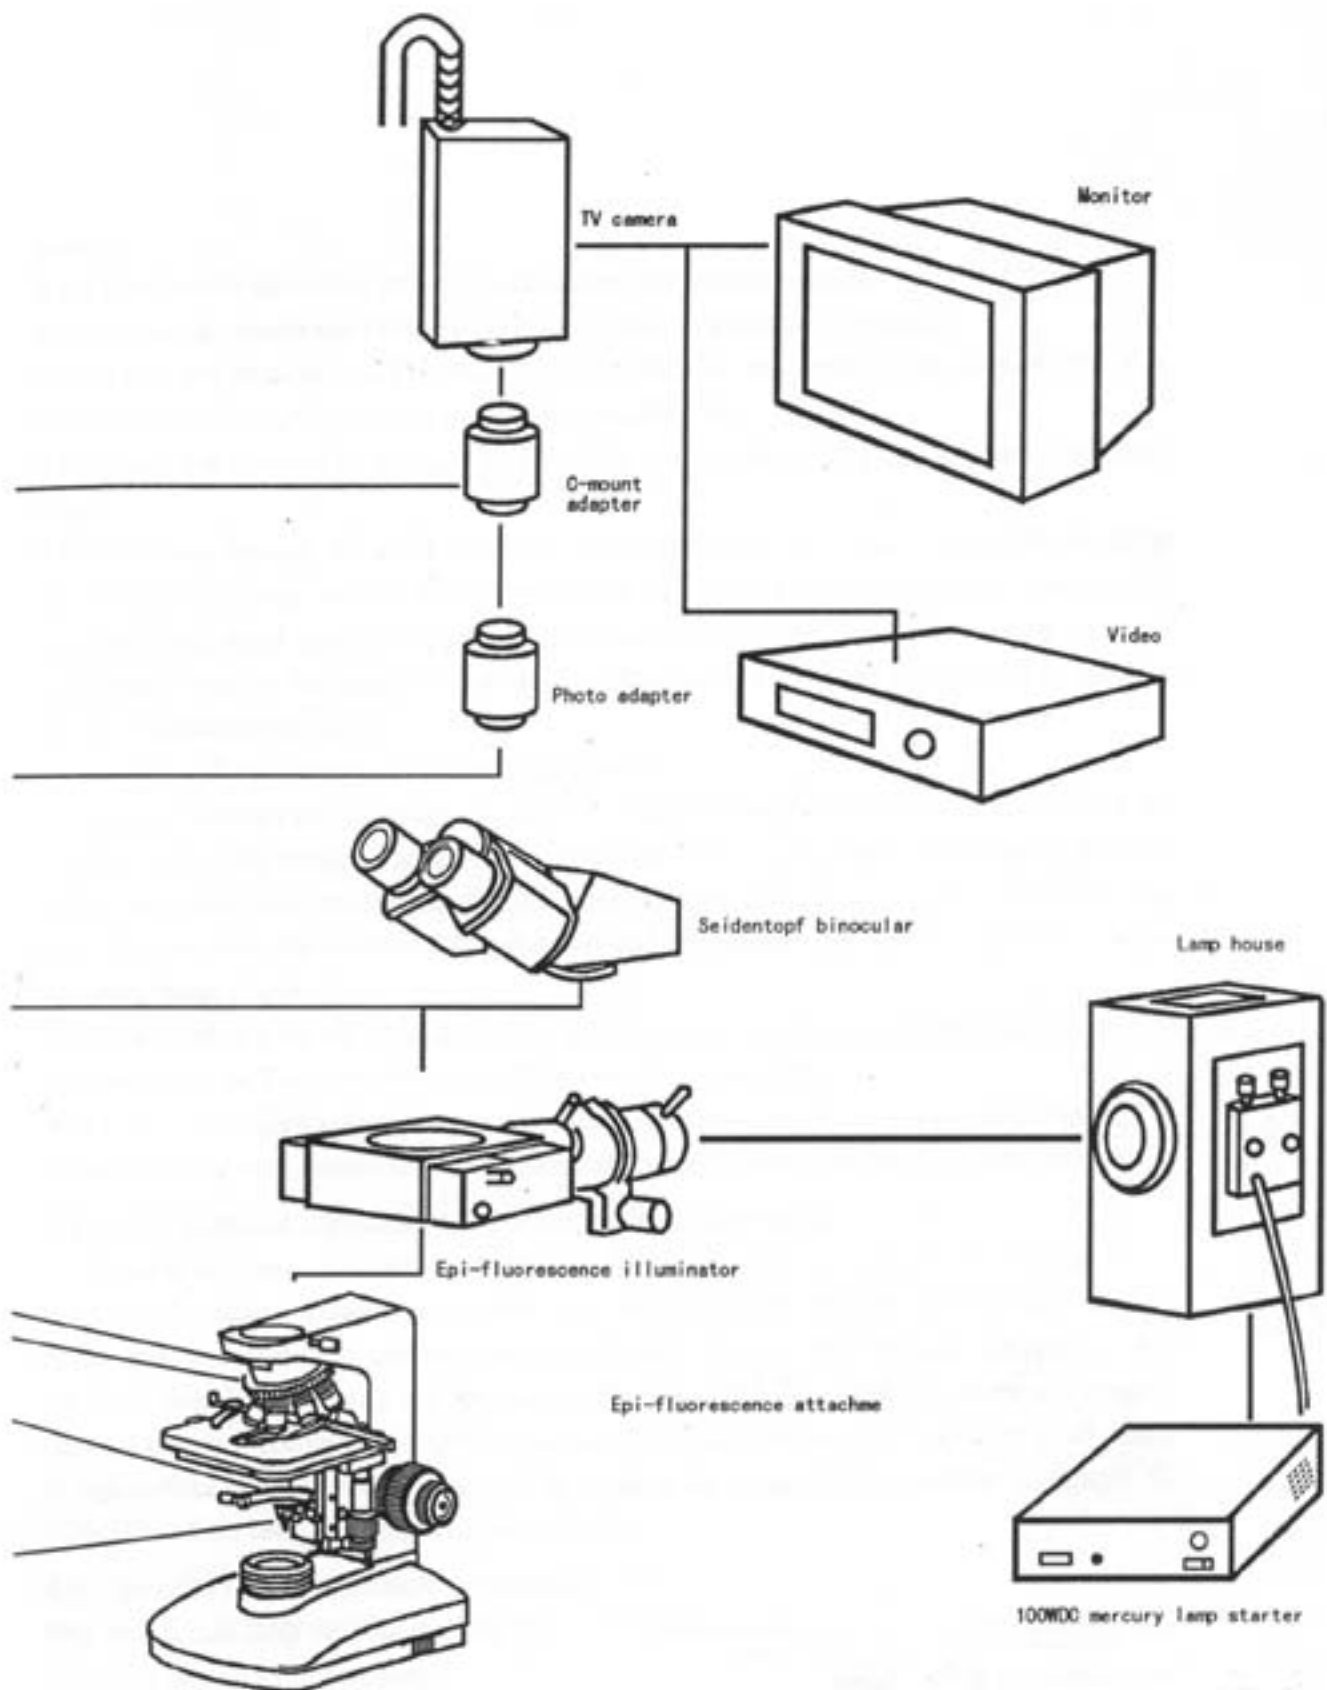

Fig.2 Installation
3.1 As shown in Fig.2. Lift the stage by rotating the coarse focusing knob and lower the condenser by moving the condenser focusing knob. Align the fixed pin of the condenser with the condenser holder , push the condenser to its position and fix it with the thumb screw(2).
3.2 As shown in Fig.2. Lower the stage, screw the objectives into the nosepiece in the sequence of their magnifications.
3.3 As shown in Fig.2 and Fig.8. When binocular head or fluorescence attachment is required, fix it on the body with the thumb screw (1) When fluorescence attachment is required , fix the epi-fluorescence device on the body with thumb screw (1) and thumb screw(10),then fix the lamp house on the epi-fluorescence device with the thumb screw (11).Finally, fix the binocular head or trinocular head on the epi-fluorescence device with thumb screw(9).
3.4 As shown in Fig.2. Installation of the photographic attachment: